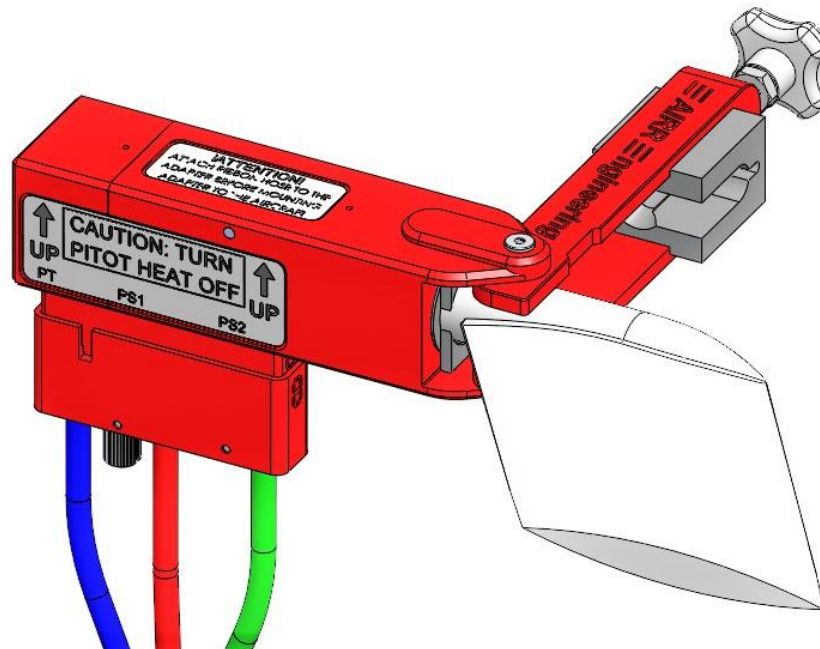

Figure 4: adapter on probe as far as possible
- F. Slide adapter 1 onto the probe as far as possible (Figure 4). Do not attempt to rotate the adapter on the probe once the adapter is in place.
G. Open the adapter cam handle (Figure 4).